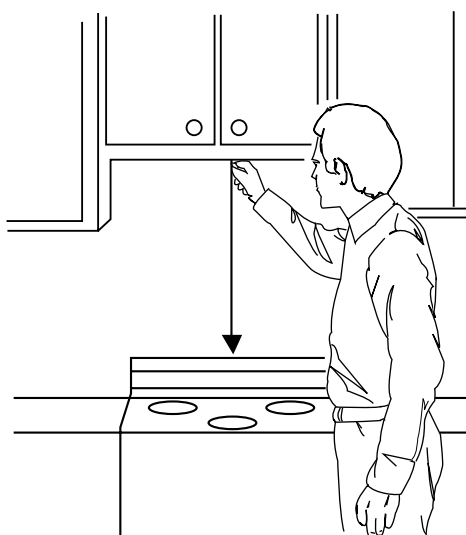

Figure 17
1. Using a plumb line and (metal) measuring tape, find and mark the vertical center line on the back wall, as in Figure 17.